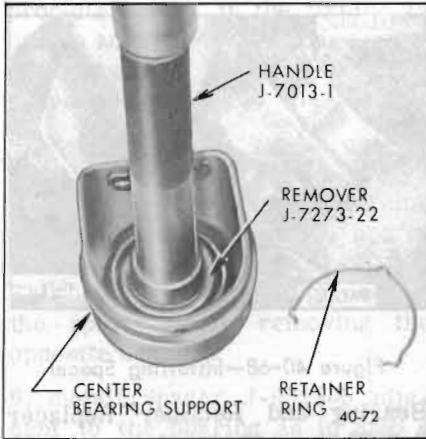

Figure 40-60—Removing Center Bearing from Support
b. On 49000, remove retainer rings from bearing assembly and remove center bearing with assistance of Remover J-7273-22 and Handle J-7013-1. See Figure 40-60.